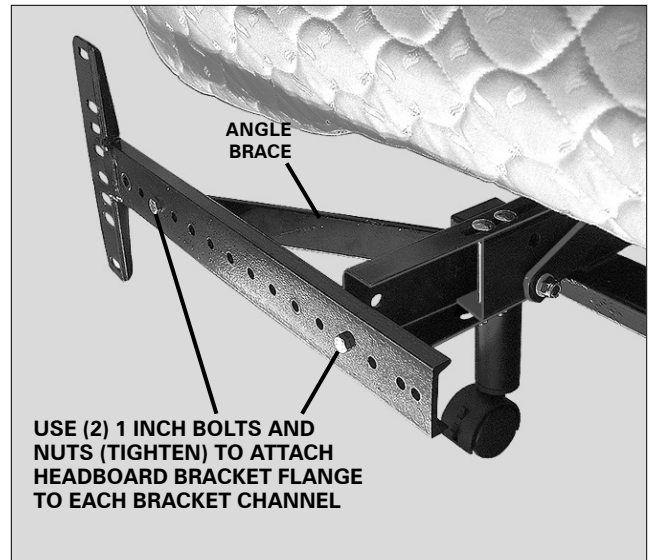

FIGURE 10: Headboard bracket flange installation (*attach one flange to each of the headboard bracket channels*).
- c. Attach one headboard bracket flange to one of the bracket channels with (2) bolts/nuts. (FIGURE 10) Tighten bolts. Repeat procedure to attach the other headboard bracket flange.*